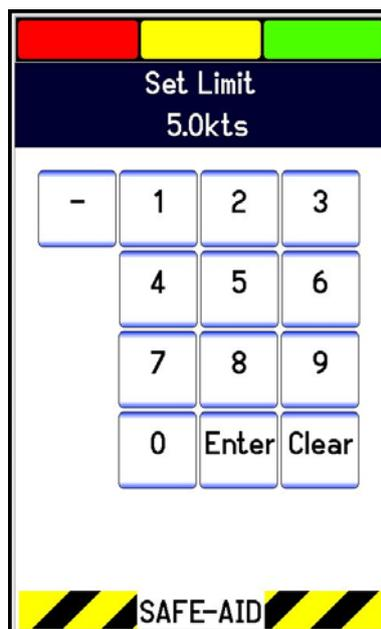

Figure 11
2. Enter the three digit password [- - -] followed by the **Enter** button the Set Limit screen will be displayed (figure 11).